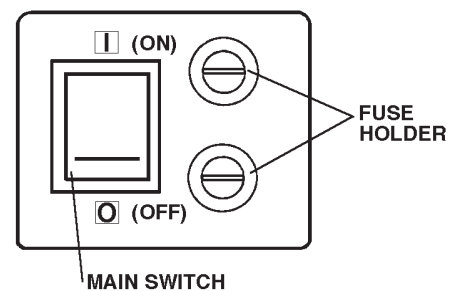

Fig.3-17 Chair Power Supply Panel
(1) Chair Power Supply Panel (Fig.3-17)